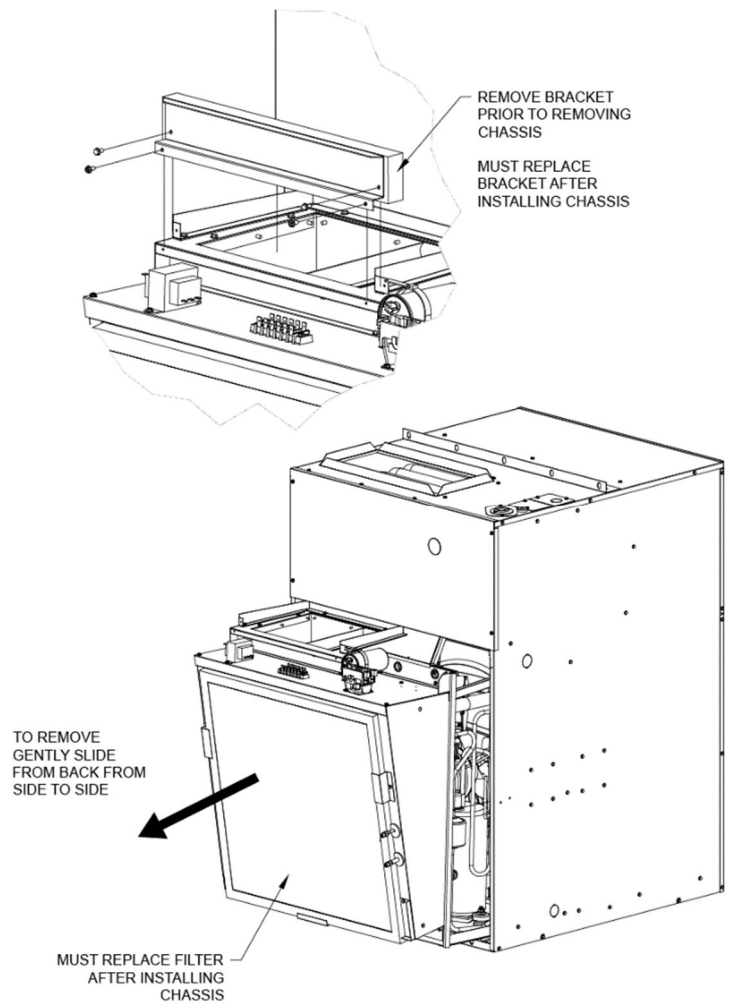

FIGURE 17 -Air Filter Location
5. If an air filter is to be applied to the unit remove lower front access panel to replace filter. (**FIGURE 17 -Air Filter Location**). Place the filter into the filter bracket.